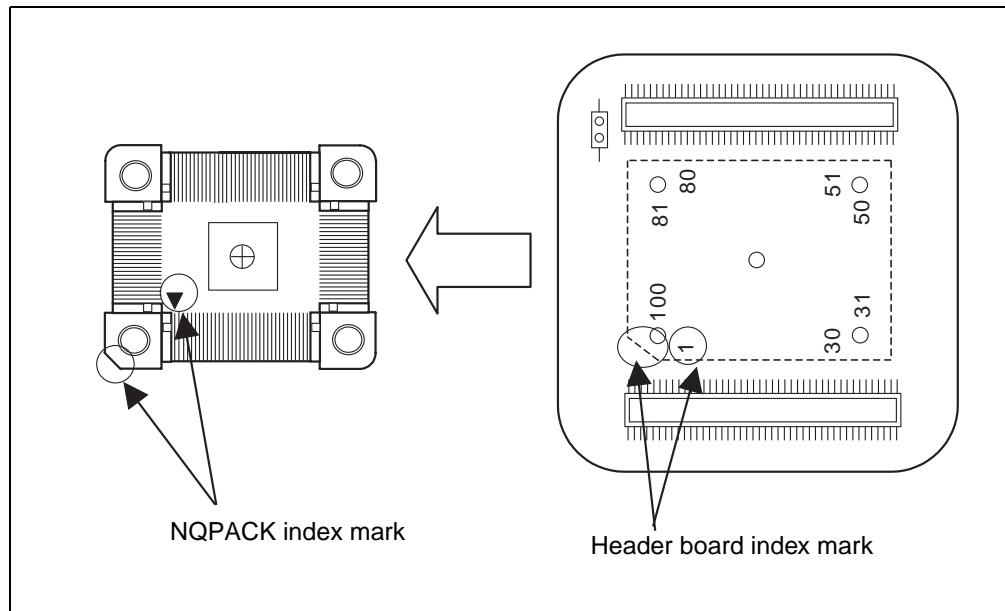

Figure 4 Index Position
1. To connect the header board to the user system, match pin 1 indicated by the index mark (▲) on the NQPACK mounted on the user system with pin1 indicated by the index mark (angle cut linearly at one place only in slik screen) on the header board and then insert it (See Figure 4) . The pin of YQPACK is thin and easy to bend. Insert NQPACK after confirm that the pin of YQPACK is not bent.